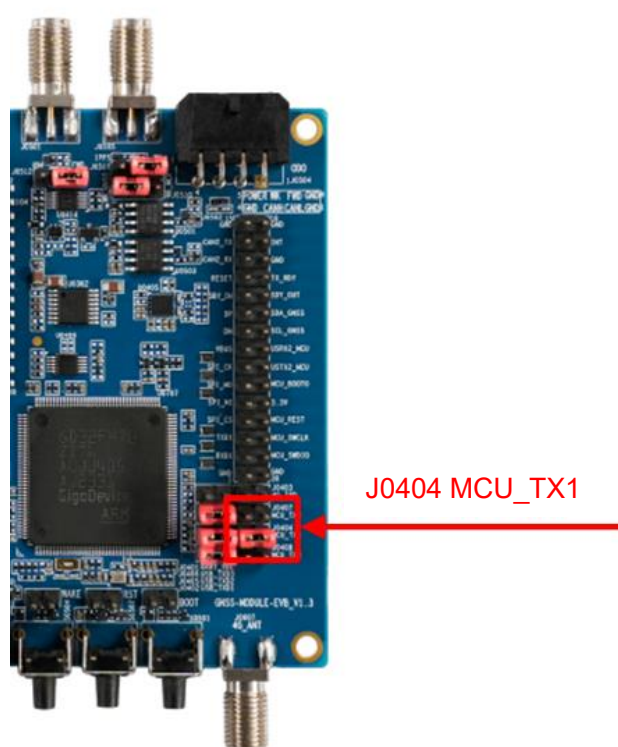

Figure 20: Connection Between MCU UART1 and Module UART1
- To inject the converted vehicle speed into the module via UART, refer to Figure 20: Connection Between MCU UART1 and Module UART1 to short-circuit the two pins of J0404.